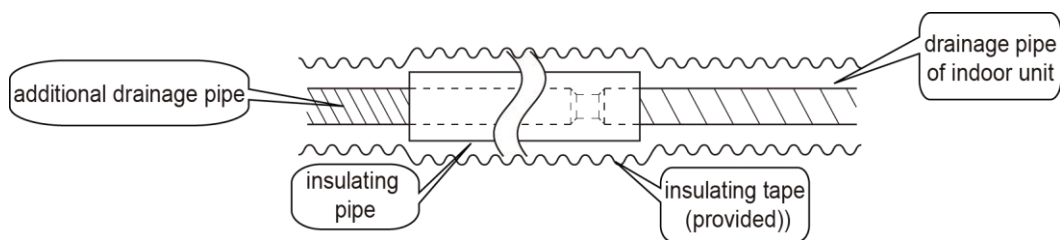

Fig 4.3.1
- (1) The drainage pipe should be short and the gradient downwards should be at least 1%~2% in order to drain condensation water smoothly.
- (2) The diameter of drainage hose should be bigger or equal to the diameter of drainage pipe joint.
- (3) Install drainage pipe according to the following fig and arrange insulation to the drainage pipe (Fig 4.3.1). Improper installation may lead to water leakage and damp the furniture and other things in the room.
- (4) You can buy normal hard PVC pipe used as the drainage pipe. During connection, insert the end of PVC pipe into the drainage hole and then tighten it with drainage hole and wire binder. Can't connect the drainage hole and drainage hole with glue.
- (5) When the drainage pipelines are used for several units, the position of pipeline should be about 100mm (4in.) lower than the drainage port of each unit. In this case, thicker pipes should be applied.